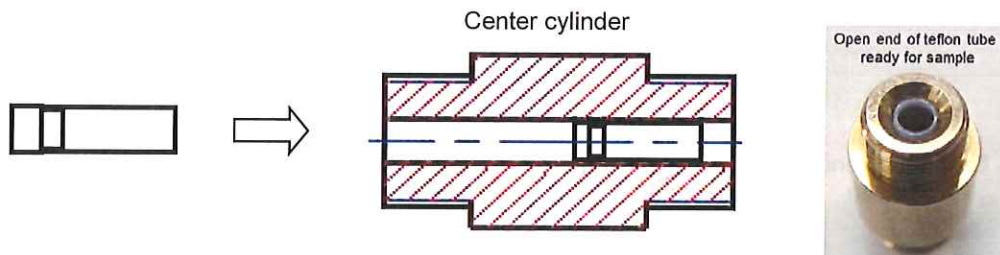

Fig 3 Inserting teflon tube + cap to center cylinder
- 3) Slide the teflon sample tube/teflon cap combination into the center cylinder leading with the open end of the teflon sample tube. Push in with the appropriate diameter sample push rod until the end of the teflon sample tube extends slightly beyond the bevel of the center cylinder (fig 3).